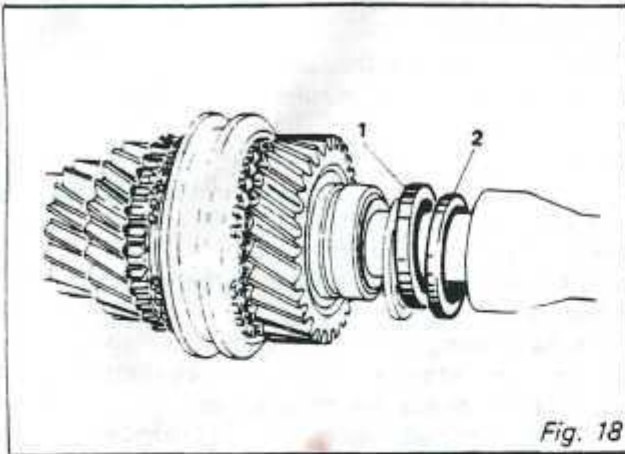

Fig. 18
13. Insert the primary shaft assembly into right-hand half-case, taking care that the flange of the clutch shaft tube seal is in the inner groove of the case. (Fig. 18)